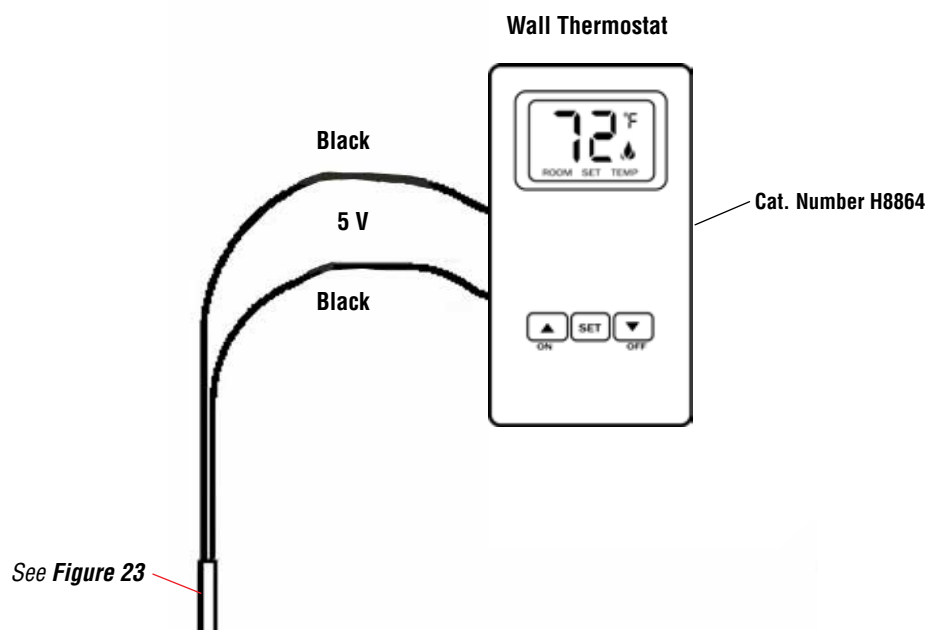

Figure 22
3. Locate the the two(2) black wires and pull out the length needed to reach wall thermostat (15 feet max.).
4. Connect the wires to the wall thermostat as shown in **Figure 22**. Follow instructions provided with wall thermostat kit.